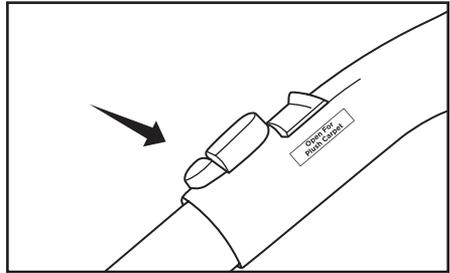

Fig. 1
- Disconnect the wand from the curved handle by pressing the Wand Release Button (Fig. 1).